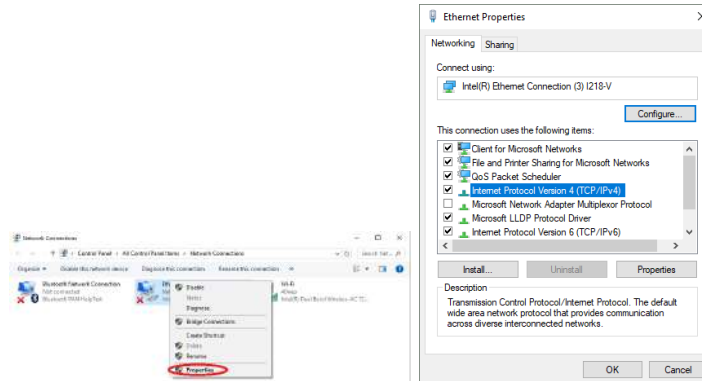

Figure 15: Changing the Ethernet settings
- Click “Ok” and go back to the Network connections page (left panel of Figure 15).